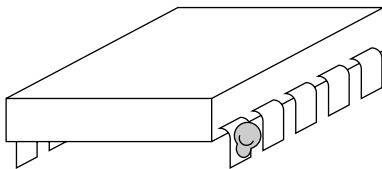

FIGURE 8-19: A small solder bump left behind on the IC pin
3. Remove the solder and tip just a moment after the solder begins to melt onto the IC pin, leaving a tiny bulge of solder behind (see Figure 8-19).